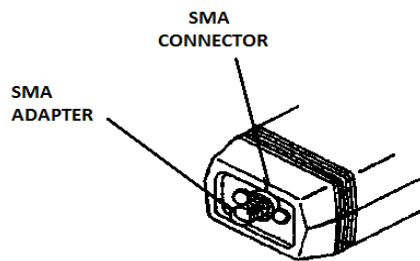

Figure 10. SMA ADAPTER LOCATION
1. Use a 7/32" wrench to remove the old SMA Adapter (see Figure 10). Turn the adapter counterclockwise as viewed looking at the rear of the probe.